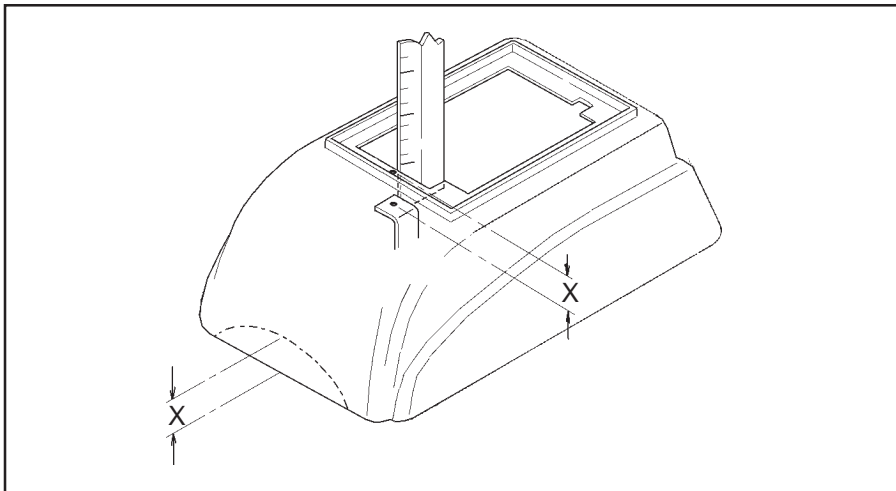

Figure 10
**STEP 27.** Place tower over shifter mechanism until the bottom edge of the tower touches the floor. Hold the tower level to the shifter with the bottom of the tower touching the highest surface on the floor it will come into contact with, (See **figure 10**). Use a ruler to measure the distance X from the underside of the tower to the tower mounting brackets on the shifter mechanism.
**STEP 28.** Set a pair of dividers at the distance X, measured in **step 27**. Hold the tower level to the shifter mechanism with the bottom of the tower touching the highest surface on the floor it will come into contact with. Holding the tower in position, place one leg of the divider against the floor while the other touches the tower, (See **figure 10**). Using the dividers, scribe a line around the tower that follows the contour of the floorboard. Remove the tower and trim at the scribe line using a keyhole saw or a saber saw. (The material is too thick to cut